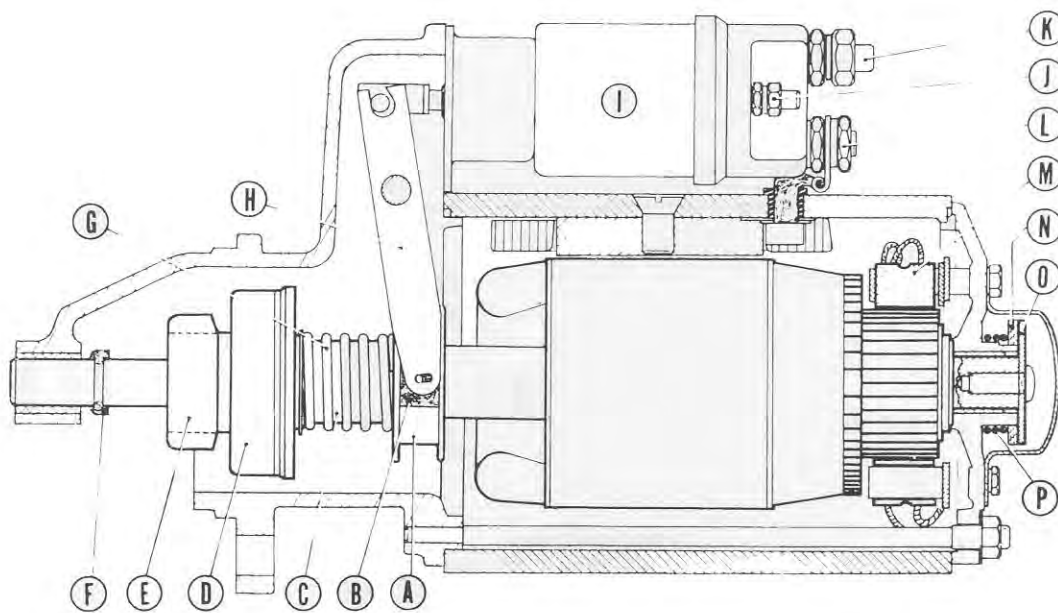

Fig. 2
PARIS-RHONE STARTER . . .	type D 11 E 85 (Fig. 2)
### The Solenoid Unit (I - Fig. 2).
### The Starter Motor (See Fig. 2).
**The Starter Drive Assembly** (See Fig. 2).